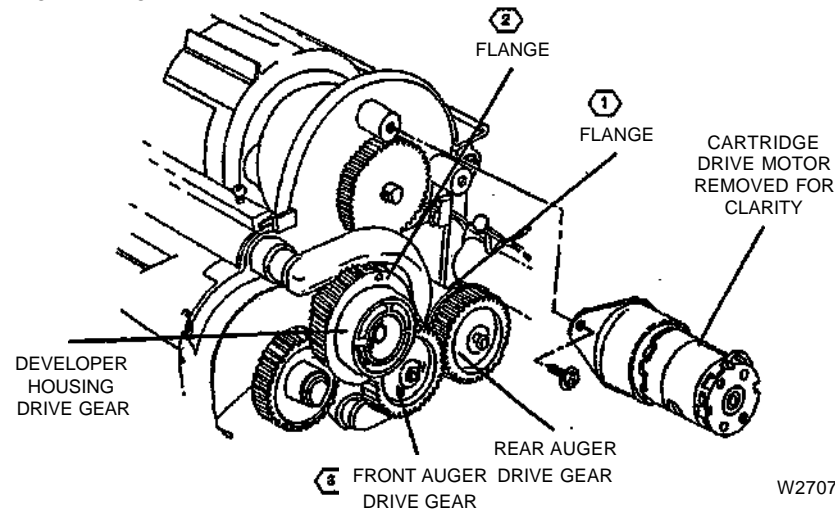

Figure 1. Developer Housing and Auger Drive Gears
- Ensure that the Developer Housing Auger and Drive Gears are not damaged and are Installed correctly (Figure 1).